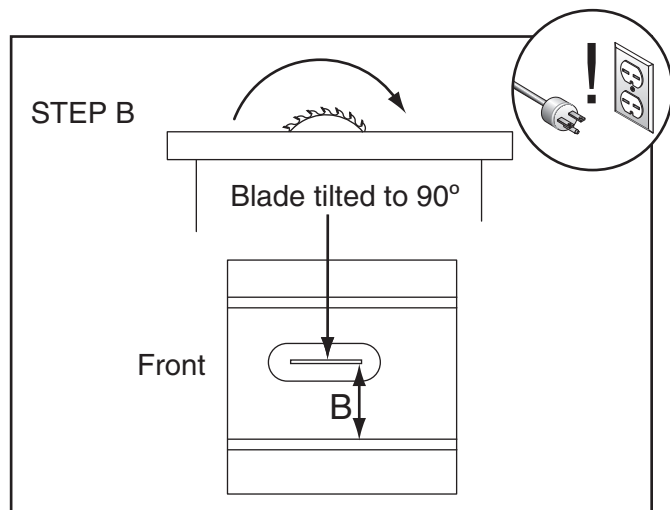

Figure 106. Measuring distance from miter slot to carbide tip on opposite side of table insert.
6. Compare the distance from the marked blade tip to the miter slot, as shown in **Figure 106**.